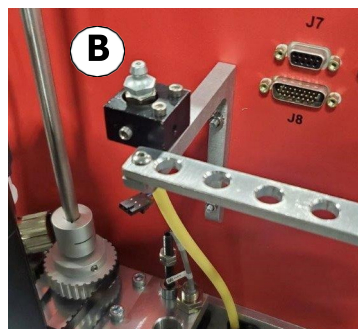

Figure 6-23 Carriage Rear - Lift Grease Fitting
4. Connect grease gun to carriage lift grease fitting Figure 6-23 location (B).